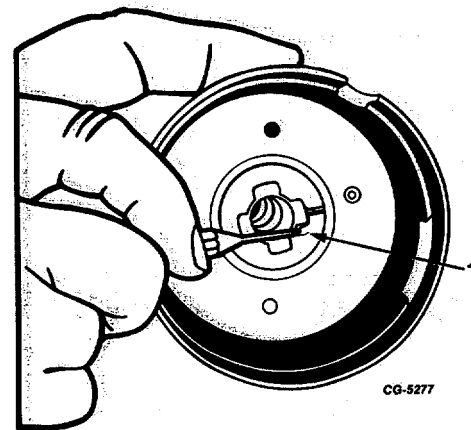

Fig. 36 Installing Grease Retainer Washer (Distributors Without Tachometer Drive)
- b. Wipe excess oil from floor of distributor housing and install grease retainer washer (Figure 36). Tangs of washer must lock into groove in upper bushing.